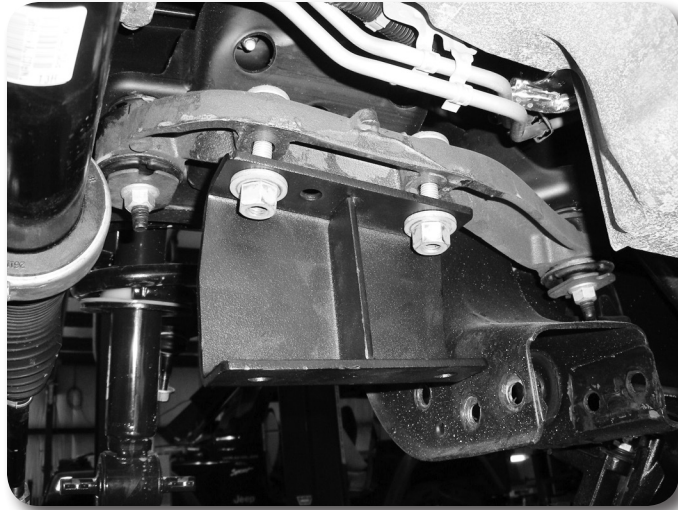

Figure 17
27. Install the new passenger's side differential bracket to the original mounting studs with the factory nuts **Figure 17**. The bracket mounting surface with 3 holes in it goes to the frame and the open face toward the inside of the vehicle. Torque nuts to 65 ft-lbs.